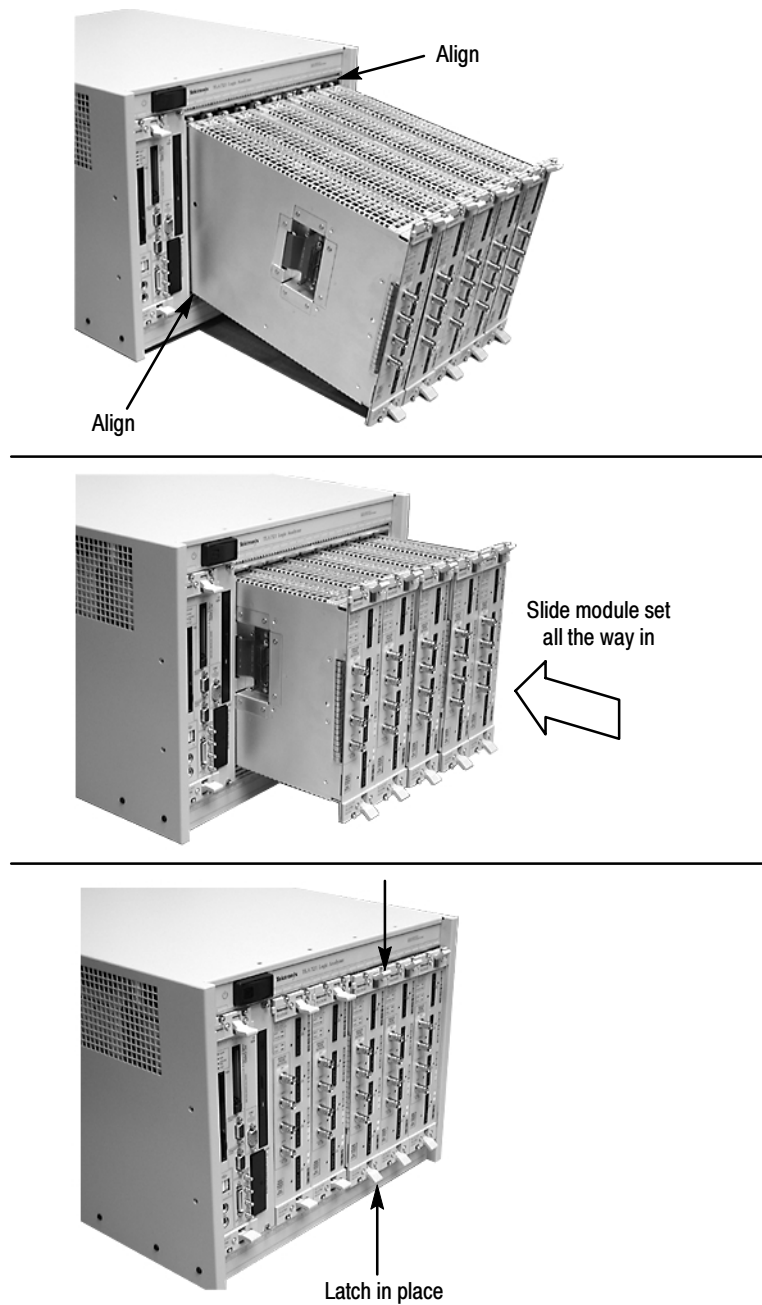

**Figure E-4: Installing the merged module set in the mainframe**
10. Align the tops and bottoms of the modules with the slots in the mainframe (see Figure E-4 on page E-6). You may need the help of another individual if your merged module set contains more than two modules.